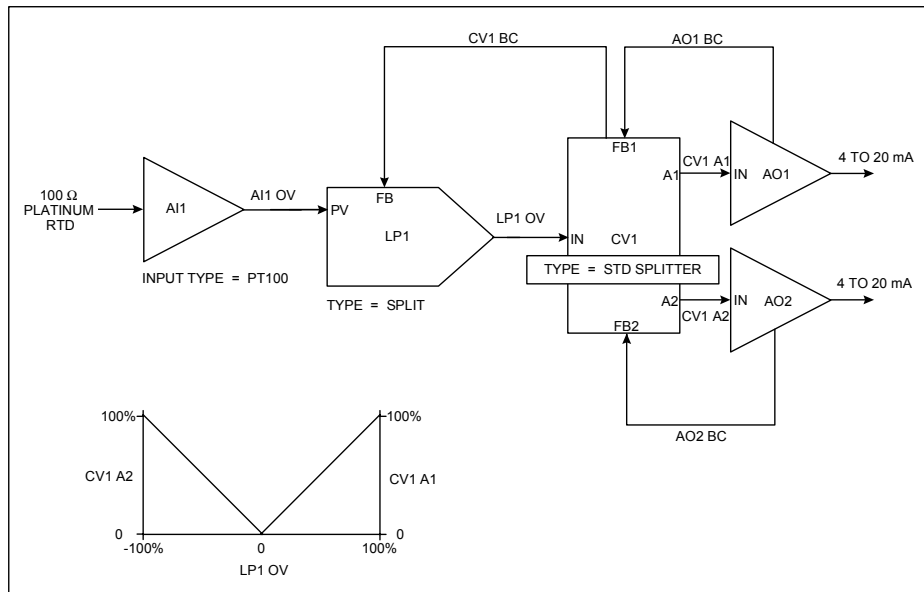

Figure 3-20 Function Block Diagram Of Figure 3-19
In Figure 3-20, the analog input function block AI1 is depicted processing the resistance values produced by the RTD. The resulting water temperature measurements (AI1 OV) are then fed to the process variable input (PV) of the LP1 control loop block. Note how LP1 has been defined as a split output control loop using the notation "TYPE = SPLIT." Unique to this control loop is the defined range of its output value, LP1 OV. Where the standard control loops mentioned thus far have had outputs ranging exclusively between 0 and 100%, the % values of the split output control loop vary between -100 and 100. 0% is considered the midpoint for this control loop's output range. When brought on-line, a 0 to 100% output value will be generated by LP1 when hot water is needed to maintain the temperature at set point. When the addition of cold water is necessary, the loop's output will assume a value between 0 and -100%. Note that to externalize the control signals generated by LP1, two analog output blocks, AO1 and AO2, will be used. AO1's 4 to 20 mA signal will be tied to the hot water valve actuator, while the actuator that adjusts the position of the cold water valve will receive its mA control signal from AO2. To provide AO1 and AO2 with usable input driving signals, LP1's output will be applied to a function called a "standard splitter (STD SPLITTER)." Made from one of the instrument's calculated value function blocks ("CV's"), the standard splitter will essentially be a mechanism that translates the % values of the split output control loop into two distinct 0 to 100% signals. They will be applied to the inputs of AO1 and AO2 and, as such, will drive and linearly correspond with AO1 and AO2's 4 to 20 mA outputs.
The two outputs on CV1 that will drive AO1 and AO2 are respectively labeled "CV1 A1" and "CV1 A2." CV1's basic operation is described by a plot of these outputs versus LP1 OV. Shown in the lower left of Figure 3-20, the plot demonstrates that CV1 will produce a 0 to 100% value at its CV1 A1 output when LP1 calls for an output level between 0 and 100%. CV1 A2 will remain at 0%. When applied to AO1, the CV1 A1 value will activate the 4 to 20 mA signal needed at the hot water valve actuator to make the water temperature in the vessel rise. Similarly, when LP1 calls for an output level between 0 and -100%, CV1 will produce a corresponding 0 to 100% value at CV1 A2. This time, CV1 A1 will remain at 0% and the CV1 A2 value generated will induce the introduction of cold water into the vessel to cool its contents down.